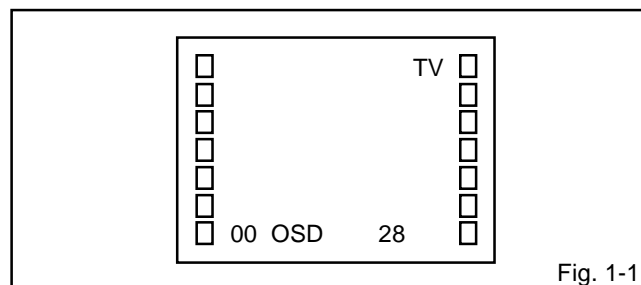

Fig. 1-1
1. In the condition of NO indication on the screen. Press the VOL. DOWN button on the set and the Channel button (9) on the remote control for more than 2 seconds to appear the adjustment mode on the screen as shown in Fig. 1-1.
4. Activate the adjustment mode display of Fig. 1-1 and press the channel button (01) on the remote control to select "CUT OFF".
4. Activate the adjustment mode display of Fig. 1-1 and press the channel button (10) on the remote control to select "R.BIAS".
2. Activate the adjustment mode display of Fig. 1-1 and press the channel button (06) on the remote control to select "V.SIZE".
3. Activate the adjustment mode display of **Fig. 1-1** and press the channel button **(22)** on the remote control to select "TINT".
4. Activate the adjustment mode display of **Fig. 1-1** and press the channel button **(19)** on the remote control to select "COLOR CENT".
2. Activate the adjustment mode display of **Fig. 1-1** and press the channel button **(05)** on the remote control to select "H.PHASE".
2. Activate the adjustment mode display of **Fig. 1-1** and press the channel button **(13)** on the remote control to select "BRI.CENT".
2. Activate the adjustment mode display of **Fig. 1-1** and press the channel button **(07)** on the remote control to select "V.SFT".
1. Activate the adjustment mode display of **Fig. 1-1**.
2. Activate the adjustment mode display of **Fig. 1-1**
6. Activate the adjustment mode display of **Fig. 1-1**